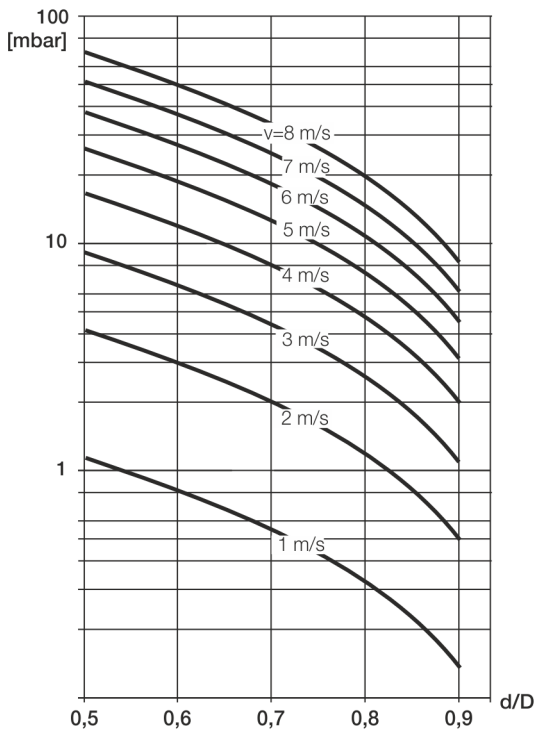

Figure 18: Flow rate nomogram for flange transition piece at  $\alpha/2 = 8^\circ$
2. Determine the flow velocity based on the flow rate nomogram (Figure 18).
3. Read the pressure loss on the Y-axis in Figure 18.